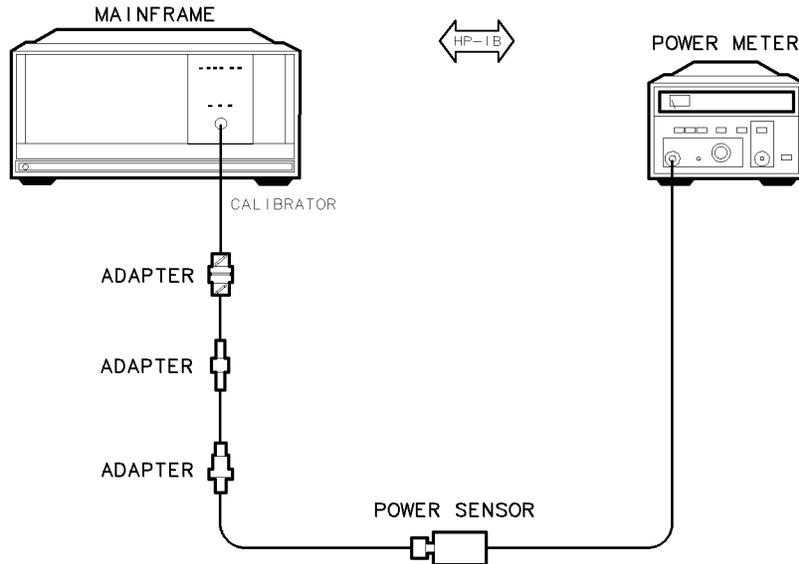

Figure 7-9. Calibrator Amplitude Accuracy Test Setup
1. Connect the HP 437B power meter and HP 8485A APC-3.5 mm(m) power sensor to the DUT using the adapters, as shown in Figure 7-9.